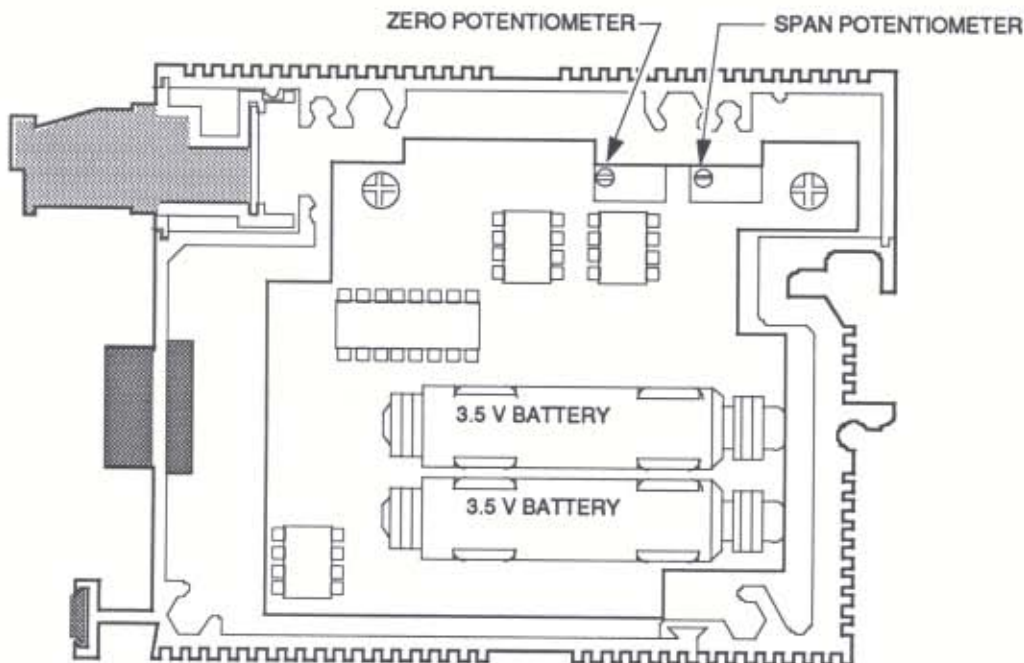

Figure 1. Zero and Span Potentiometer Locations
The Zero and Span potentiometers are located on a printed circuit (PC) board inside the DRM. To access these potentiometers, the right-side panel of the unit must be removed. A Phillips-head screwdriver is required to remove the four screws securing the panel to the unit. Once the panel is removed, no further disassembly is required. Figure 1 shows the location of the Zero and Span potentiometers.
- 9a. If output is not equal to input, remove right-side panel with a Phillips-head screwdriver and adjust Zero potentiometer to make output value equal to modified zero-percent input. (see figure 1)
- 11a. If output is not equal to input, remove right-side panel and adjust Span potentiometer to make output value equal to full-scale input value. (see figure 1)